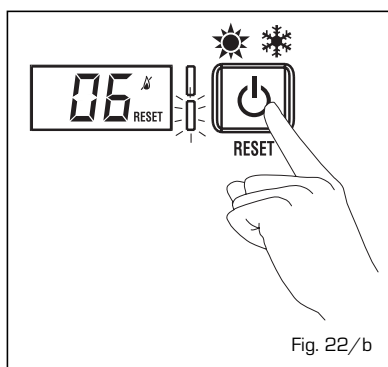

Fig. 22/b
- SAFETY THERMOSTAT ANOMALY ALARM 07 (fig. 22/c)